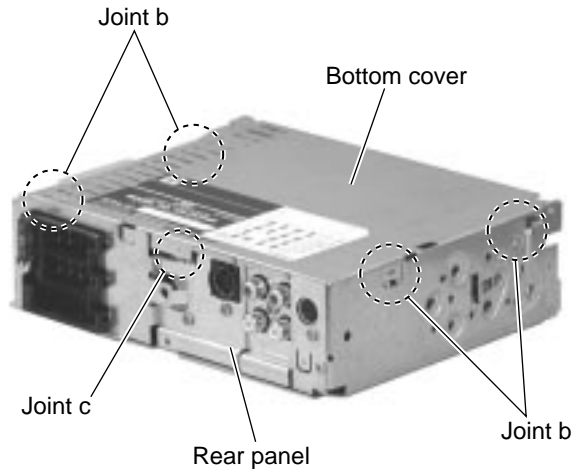

Fig.5
■ Removing the bottom cover (See Fig.5 , 6)